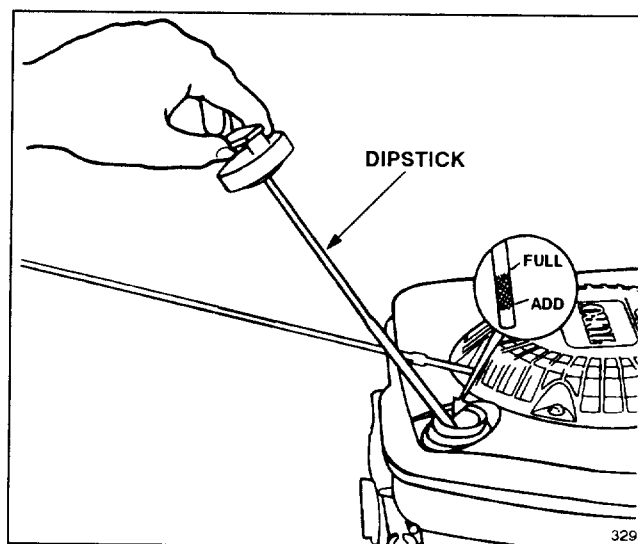

Figure 4
Before each use, ensure oil level is between FULL and ADD marks on dipstick (Fig. 4). Add oil if level is at or below ADD mark.
3. Wipe dipstick and insert it into filler neck. Rotate cap clockwise 1/4 turn. Then remove dipstick and check level of oil on side of dipstick with FULL and ADD marks (Fig. 4). If level is low, add only enough oil to raise level to FULL mark on dipstick. **DO NOT FILL ABOVE FULL MARK BECAUSE ENGINE COULD BE DAMAGED WHEN STARTED. POUR OIL SLOWLY.**